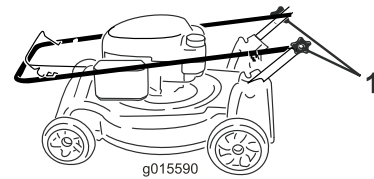

Figure 33
1. Loosen the handle knobs until you can move the handle freely (Figure 33).
1. Handle knob (2)
2. Move the handle forward as shown in Figure 33.